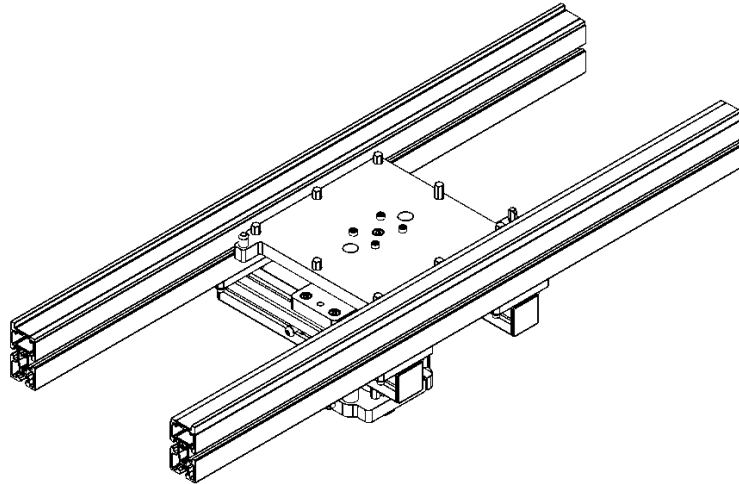

Figure 6: Mounted SLLU
Step 3: Slide the guarding over the bottom of the SLLU as shown in Figure 6.